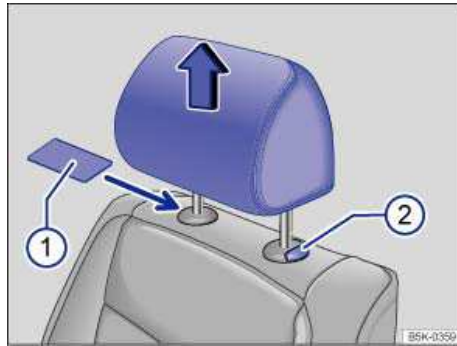

Fig. 62 Removing the front head restraints.
- Slide a flat object, such as a plastic credit card, underneath the right side of the cap on the right-hand seat guide rod ⇒ fig. 62 (1) to unlock the head restraint.
- To release the left-hand guide rod, press button (2) in (towards guide rod) and hold.
- Pull the head restraint out completely while holding button (2).